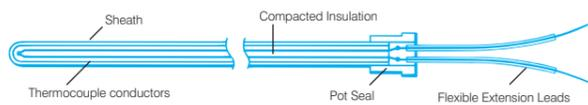

Figure 1.5: Typical Mineral Insulated Thermocouple Sensor Construction
An alternative form of construction uses mineral insulated (MI) cable (see Part 2, Section 2.3), where the thermocouple conductors are embedded in a closely compacted, inert mineral powder, and surrounded by a metal sheath (like stainless steel or nickel alloy) to form a hermetically sealed assembly. The sheath functions as a useful protective cover. This kind of device is available with outer diameter dimensions ranging now from 0.25mm up to 10.8mm, while lengths can be from a few millimetres up to tens of metres (Figure 1.5) and beyond.